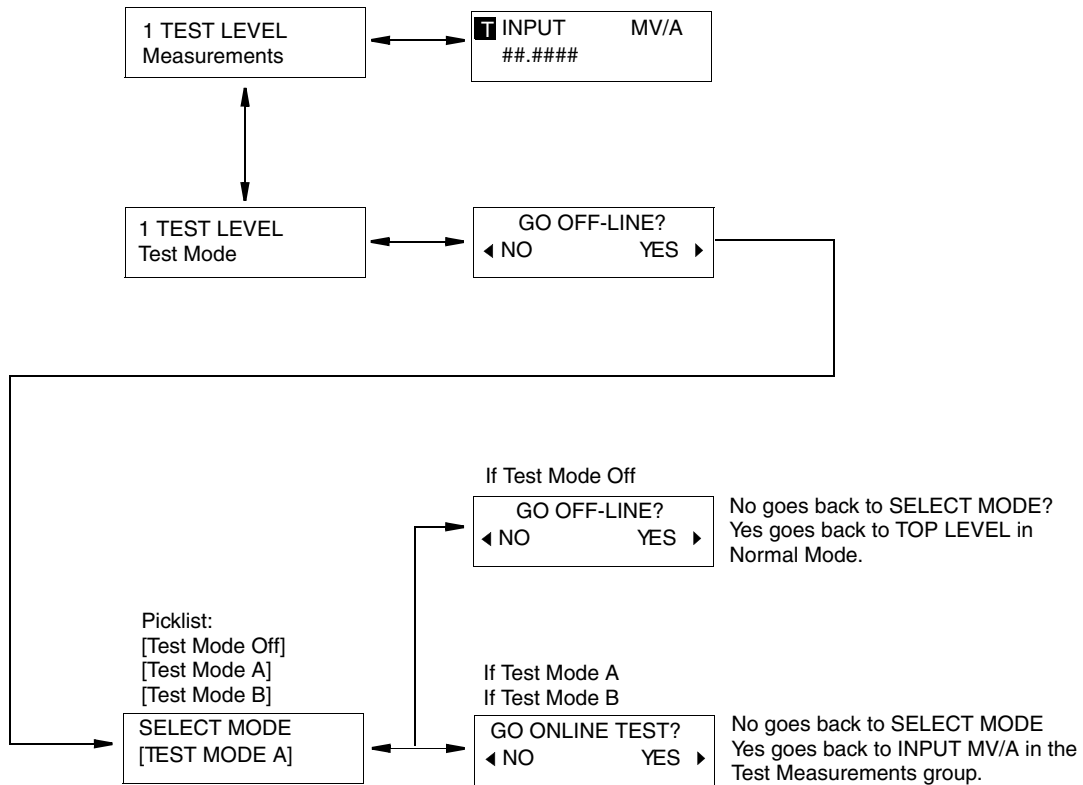

Figure 4. Exiting or Changing Test Modes
1. Use ← to get to 1 TEST LEVEL. See Figure 4.